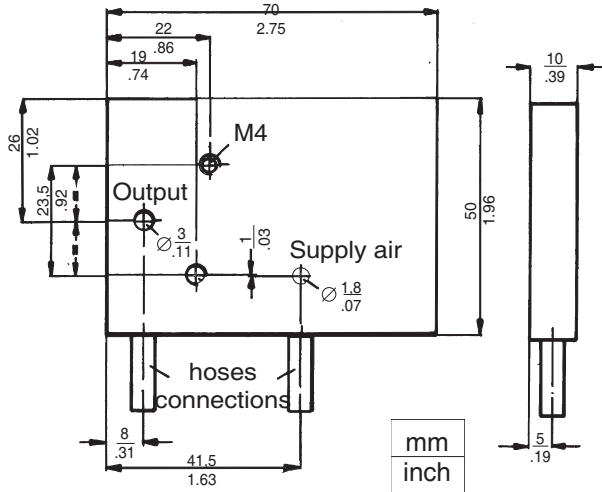
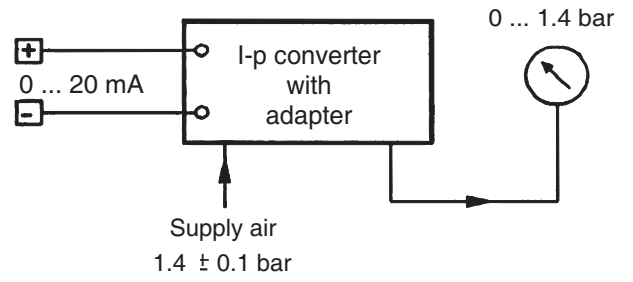

Fig. 26: Test adapter for I-p converter
Fig. 27: Test circuit for I-p converter
An adapter is required for checking and adjusting the I-p converter which can be done by yourself as shown in Fig. 26.
- Connect the I-p converter to the adapter, Fig. 26 and wire as shown in Fig. 27.